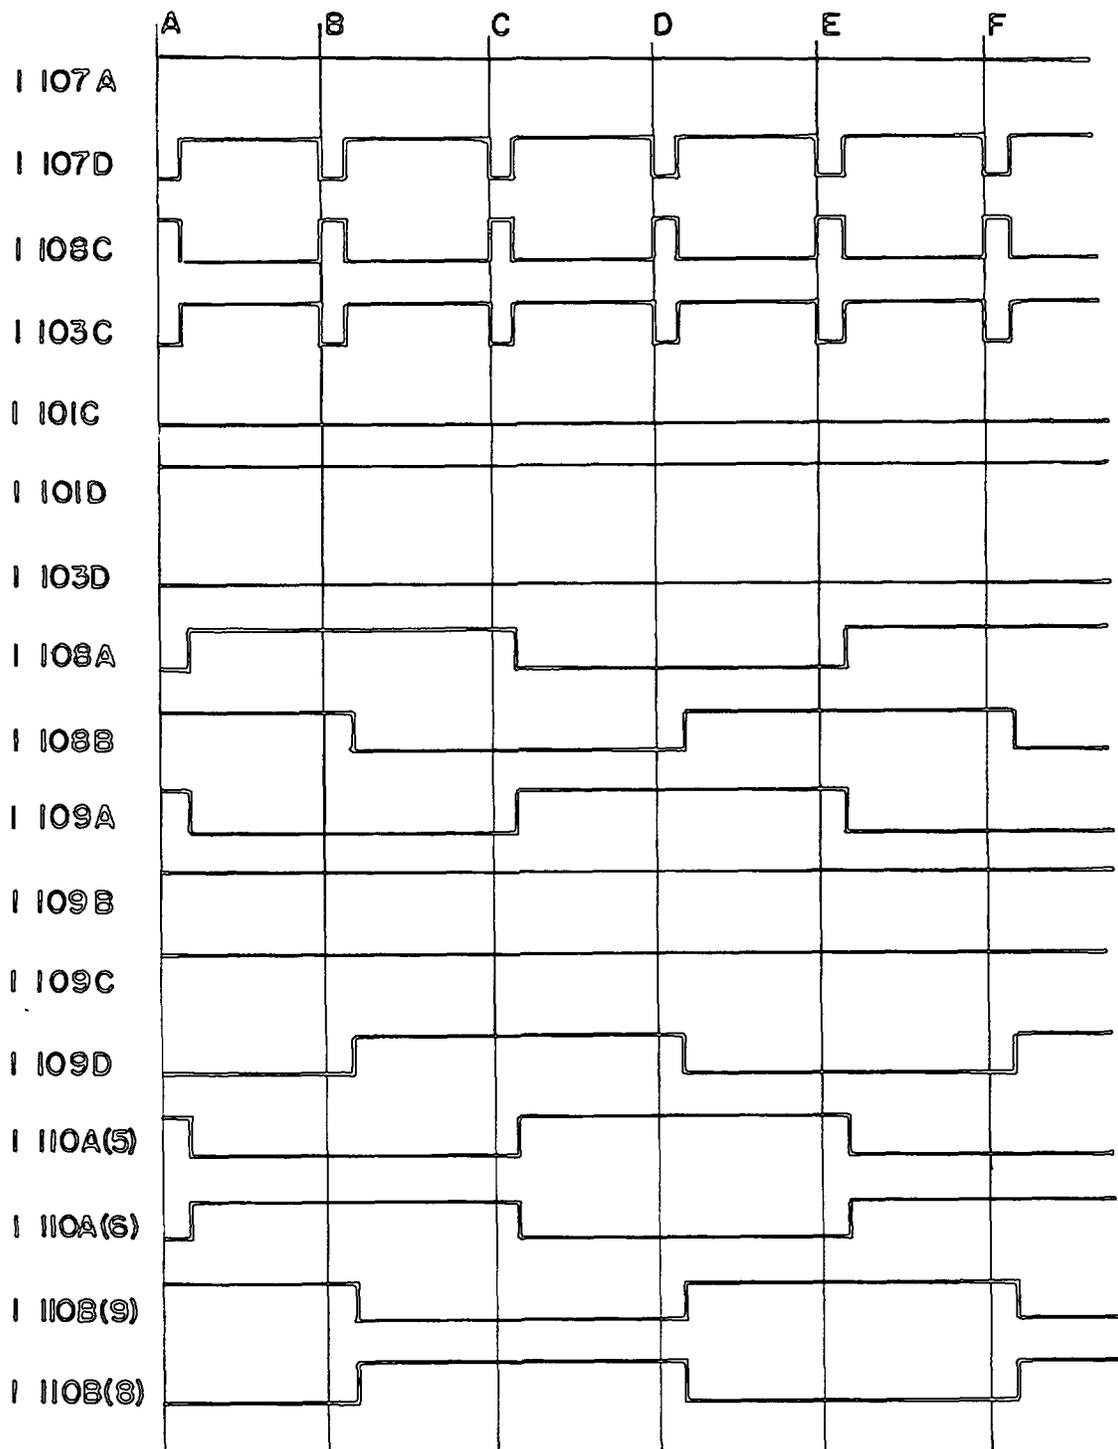

FIGURE 4-8 CW HEADING ROTATION WAVEFORM RECONSTRUCTION SEQUENCE
A CW reconstruction cycle shown in Figure 4-8 begins with both flip-flops, I110A (5) and B (9) in the high logic state, (line A). Since the CW pulses only appear at the output of I107D, a positive transition will occur at I101D when the first CW pulse arrives. This logic ONE state along with the steady state logic ZERO at I101C, forcing I101D to latch up in the logic ONE condition until a CCW pulse occurs. This signal enables gates I108A and B, while inhibiting gates I109 B and C due to the inversion of the logic ONE signal by inverter I103D. Since the output FF I110A pin 5 is high, it along with the logic ONE at I110D, will produce the ZERO at I108A, and thence a logic ONE at I109A to the input of I110B. As mentioned above, the FF will take on the value of the input at the end of the clock pulse, but since the output I110B is already high, no change will occur. Unlike the input of I108A which is connected to the Q output of I110A, its counterpart, I108B, has its input connected to the \bar{Q} output of I110B. Since the \bar{Q} output is of the opposite polarity of the Q output, a logic ZERO appears at the input of I108B producing a logic ONE at the output and thence a logic ZERO at I109D which is tied to the input of I110A. At the end of the next clock pulse, this logic ZERO will be transferred to the output of I110A as shown in Figure 4-8 one clock pulse after time A. The \bar{Q} output of each FF will always be the opposite of the Q output of that flip-flop. Now that I110A (5) has switched to a logic ZERO, I108A will go high, followed by a logic ZERO at I109A and thence to I110B. This zero will be transferred to the output of I110B at the end of the next clock pulse as shown at time B in Figure 4-8. This results in a logic ONE at the input of I108B which passes through I109D to I110A as a logic ONE. At the end of the next clock pulse, I110A (5) will switch high and provide a logic ONE at the input to I110B. In this manner, the flip-flops switch ON and OFF in an alternate fashion resulting in the reproduction of the two-phase state signal required by the KI 525 stepper motor.